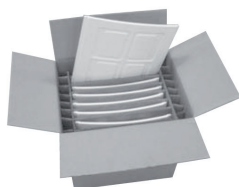

FIGURE 2 - EXAMPLE OF CERAMICS PACKAGING
- One contains the ceramics (fig.2). In this case there will be a single pack for the structure (the box with the ceramics will be placed on top of the pack with the structure)